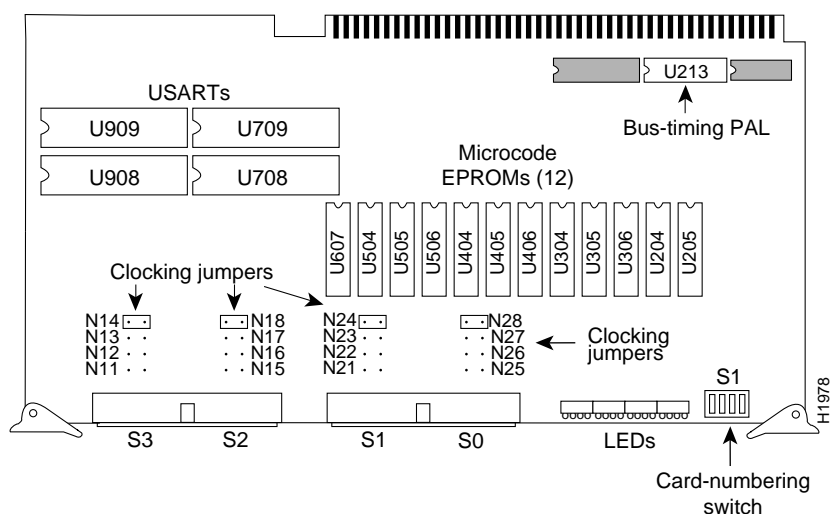

Figure 14 CSC-SCI Card—Component-Side View
The bus-timing PAL on the CSC-SCI is in socket U213, which is located on the right rear portion of the card (see Figure 14). If the PAL is already Part Number 17-0675 (or later), the CSC-SCI card needs no further modification. If the PAL is old Part Number 13/107A or 17-0038, use the following procedure to remove the CSC-SCI from the card cage and replace the PAL.
- Step 2** Remove the card. Use your thumbs to pull the ejector tabs out and away from the card edge to loosen it, and pull the card out of its slot. Place the removed card on an antistatic mat or antistatic foam. (Refer to Figure 14.)